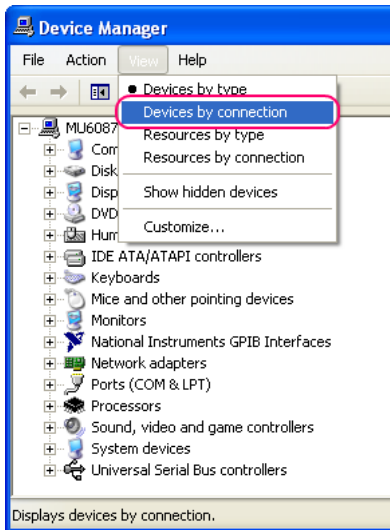

Fig. 1-9 Changing the view in Device Manager
2. Start the Device Manager and change the view by selecting **View - Devices by connection** (Fig. 1-9).